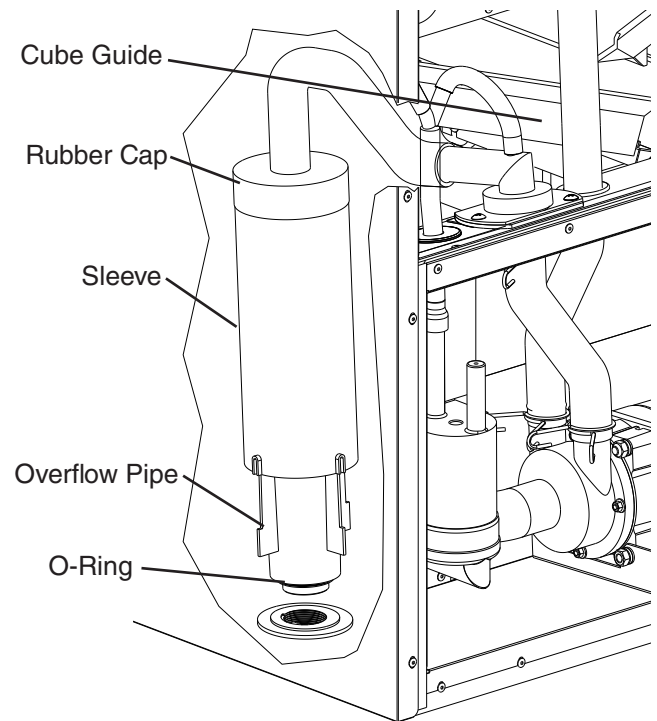

Fig. 15
- 2) Drain the water tank. Remove the front insulation panel, then slide the cube guide to the right. Remove the rubber cap and sleeve covering the overflow pipe. See Fig. 15. Unscrew the overflow pipe. After the water tank has drained, reconnect the overflow pipe. Replace the rubber cap, sleeve, cube guide, and front insulation panel in their correct positions. **NOTICE!** Make sure the O-ring is attached to the bottom of the overflow pipe and be careful not to cross thread the overflow pipe.